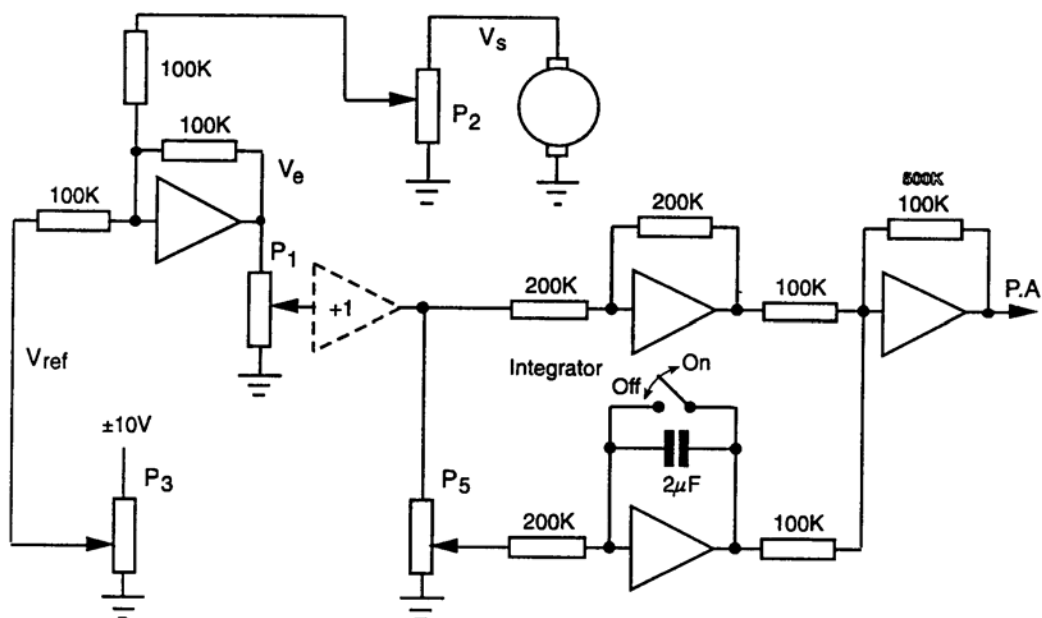
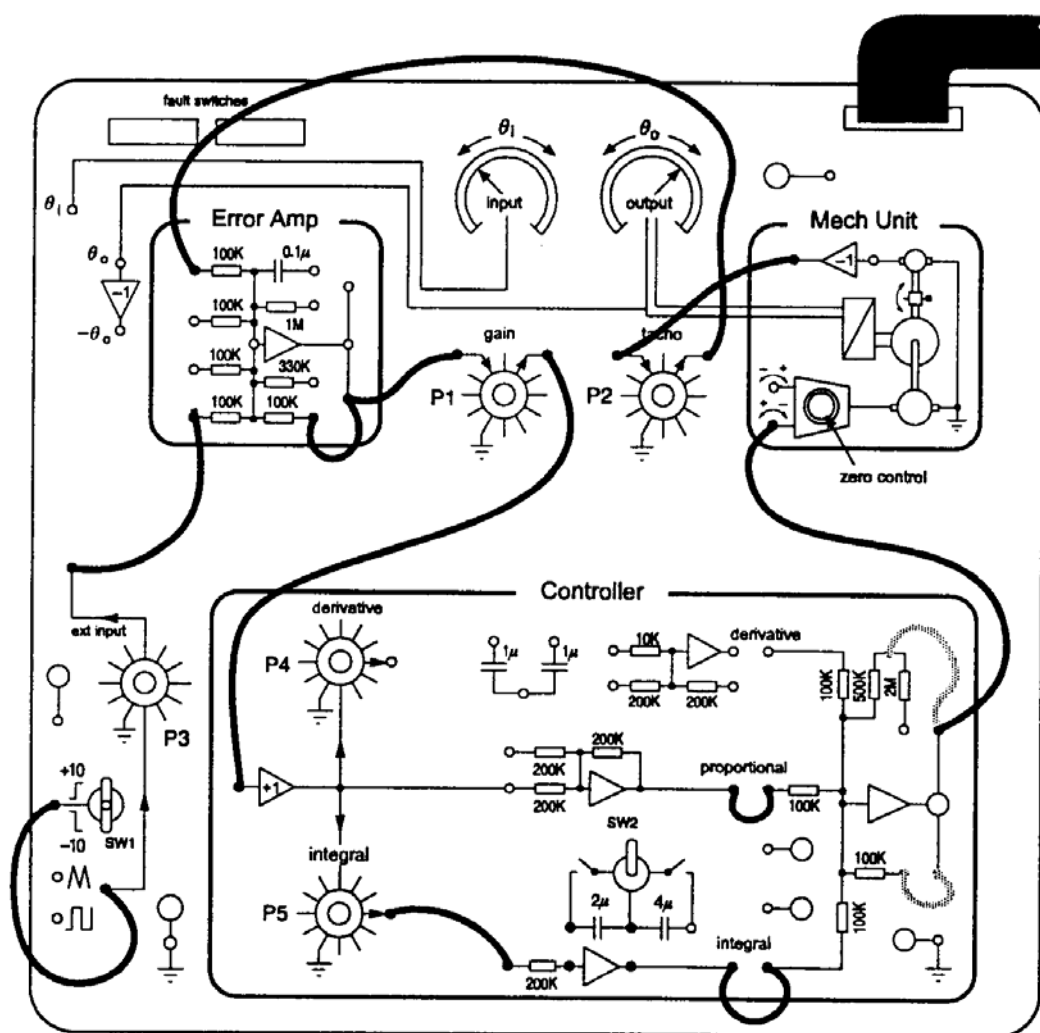

Fig. 2 Speed Control Circuit
Fig. 3 Connection Diagram
A PI controller speed control circuit is given in Fig. 2 with connection diagram in Fig. 3.
- 1) Connect the circuit of Fig. 3 with controller amplifier feedback resistor 100K, which gives forward gain ($G=1$), and switch the integrator OFF. Set P_2 and P_3 at zero and P_1 at 100.
1. Arrange the system as in Fig. 3 with brake OFF, integrator ON, P₅ to 100, P₃ set to give 1000 r/min, and controller feedback resistor 100KΩ.